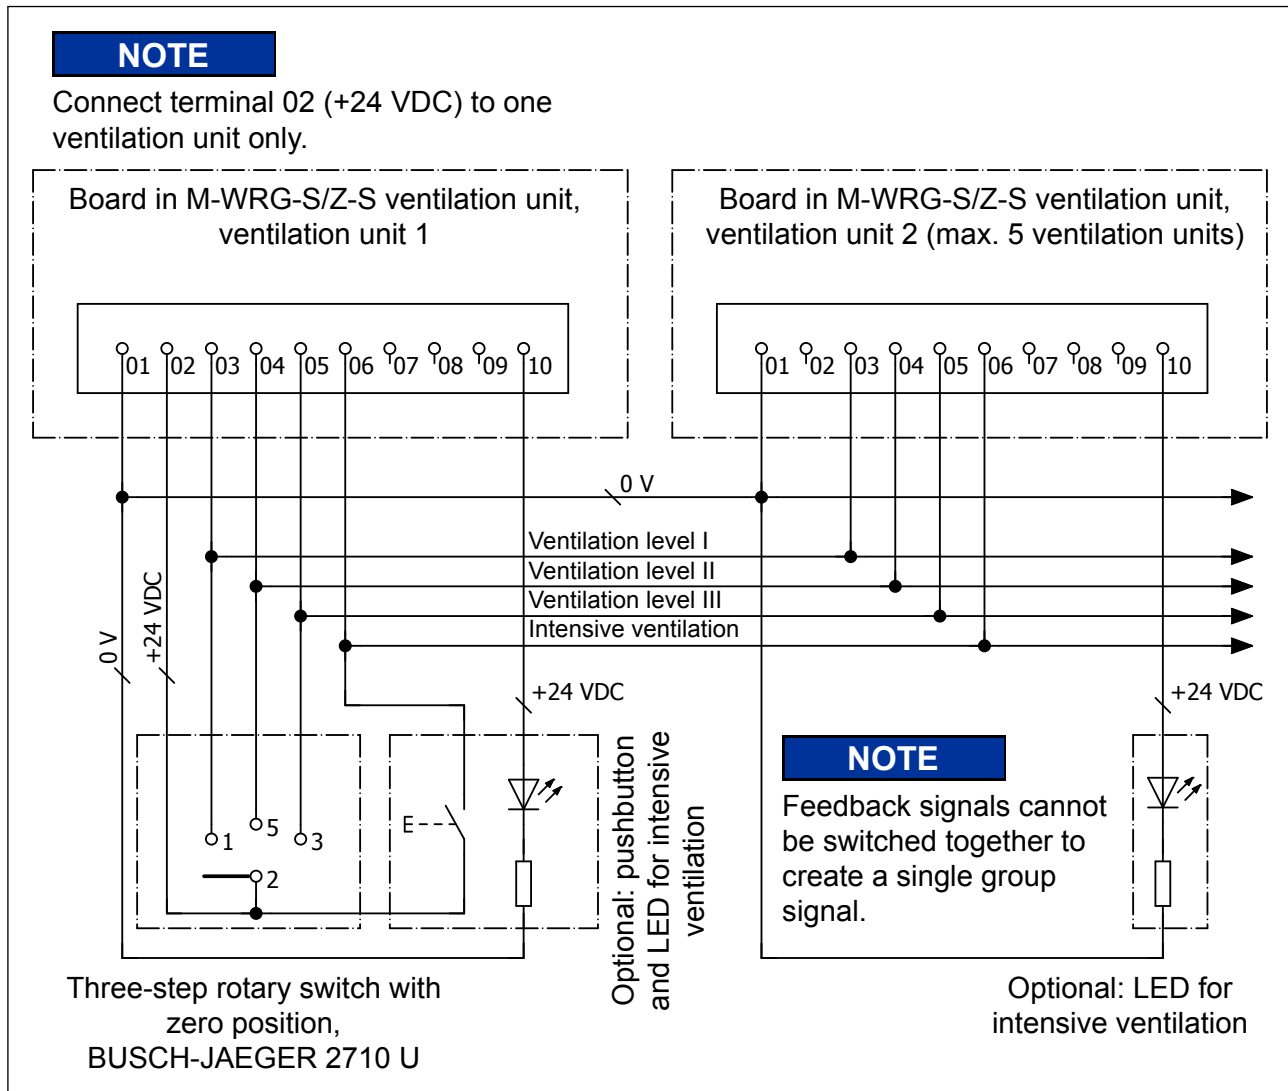

Fig. 4: Circuit diagram for wiring the M-WRG-S/Z-S ventilation unit with control cable and optional pushbutton/LED
- ▶ Connect the control cable and optional pushbutton/LED to the M-WRG-S/Z-S ventilation unit boards (see terminal assignment in section 6.3.3.1 and circuit diagram in Fig. 4 on page 11).
- The terminals 01 (0 V) of all ventilation units must be connected to one another (see Fig. 4).
- The terminal 02 (+24 V DC) of the three-step rotary switch may only be connected to the terminal 02 of a single ventilation unit (see Fig. 4).